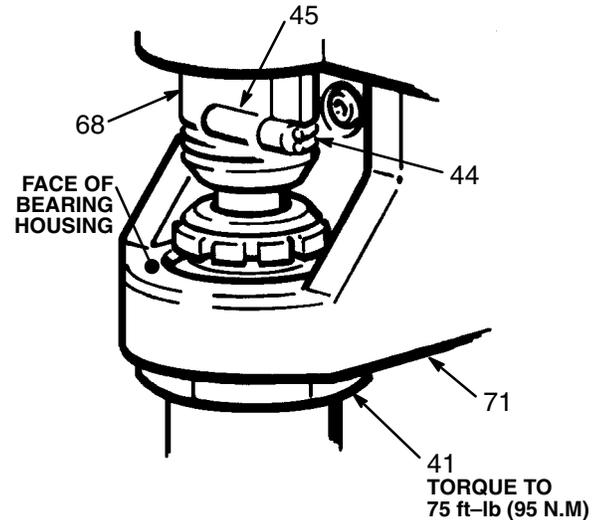

Fig 29-2
Be sure the retaining spring (44) is firmly in the groove all the way around, to prevent the pin (45) from working loose due to vibration. See Fig 29-2.